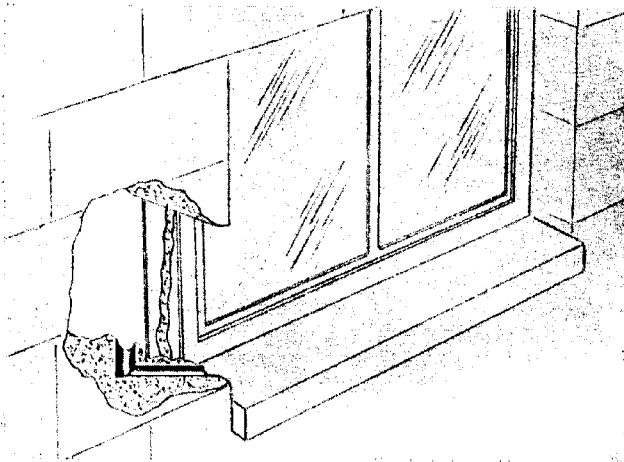

Fig. 2 – Entrance at Metal Window Frame
- When metal window frame is set in masonry or bricks, enter as shown in Fig. 2.